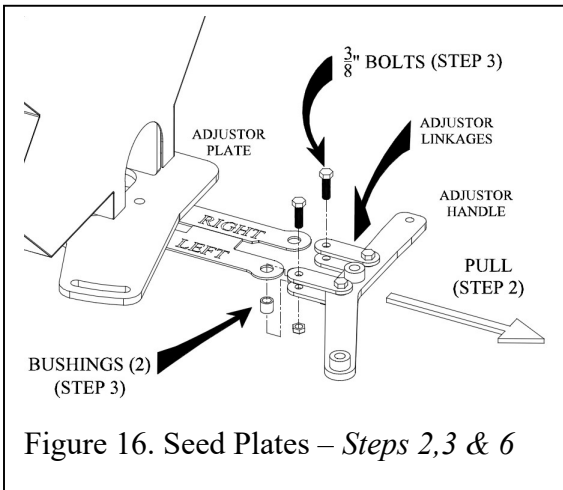

Figure 16. Seed Plates – Steps 2,3 & 6
Each set of plates are labeled with laser etching on one side: "left", "right", and their respective sizes (Figure 16).
3. Pull straight out on the adjuster handle and slide the seed plate assembly out of the seed box as shown in Figure 16.
seed plates to the adjuster linkages as shown in Figure 16.
7. When reassembling the seed plate assembly, be sure the left and right plates are oriented as shown in Figure 16.